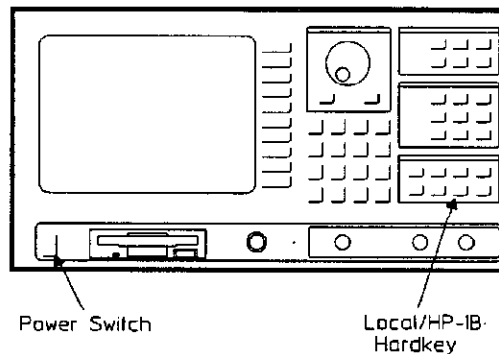

Figure 1-2. HP 35665A Front Panel
3. Turn on the HP 35665A. When the softkey labels appear, press the [Local/HP-IB] hardkey. See figure 1-2.